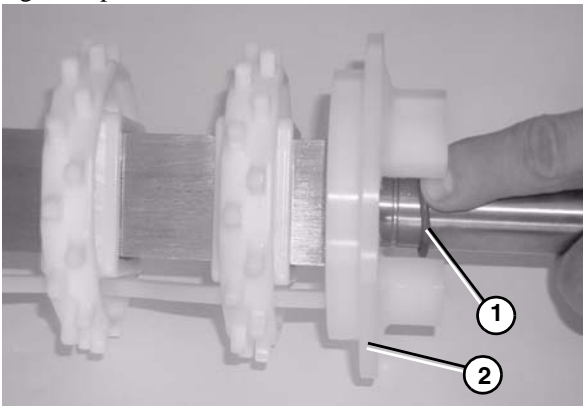

Figure 77
5. Install a flanged puck (**Figure 77, item 2**) onto spindle shaft. Install O-ring (**Figure 77, item 1**) onto spindle in groove provided.